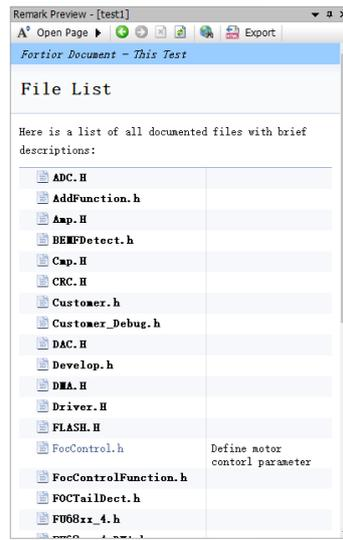

Figure 1-22
- Preview Help Of Project : Click  or “Remark” → “Preview Help Of Project” to show Remark Preview window. All header.h files are listed in the window with brief descriptions, as shown in Figure 1-22;